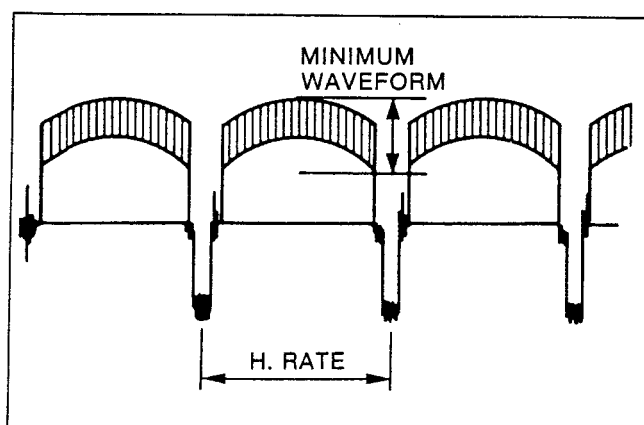

Fig. C19
- (1) Adjustment condition and procedures are the same as using vectorscope.
- (2) Adjust the VR305 and VR306 first so that the waveform becomes minimized as shown in Fig. C19.
- (3) Adjust the VR303 and VR304 so that the waveform becomes minimized as shown in Fig. C19.